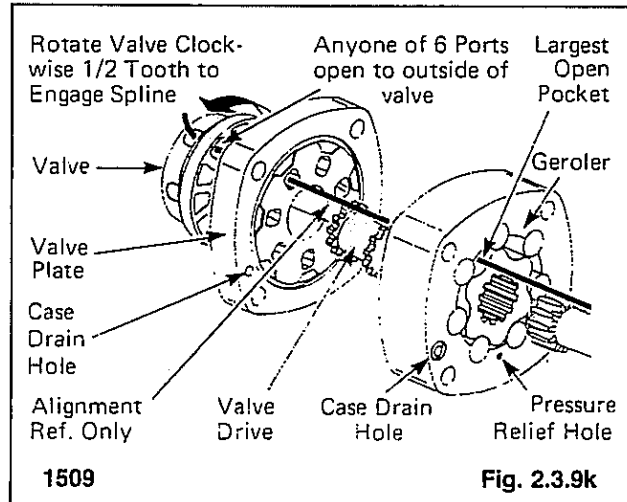

Fig. 2.3.9k
Locate the largest open pocket in the geroler (fig. 2.3.9k). Mark the location of the pocket on the outside edge of the geroler.
18. Align the case drain hole in the valve plate with the case drain hole in the geroler. Install the valve plate (seal side toward geroler) on the geroler assembly (fig. 2.3.9k).
Locate the slot opening in the valve plate which is in line with the largest open pocket of the geroler (fig. 2.3.9k).
Install the valve on the valve plate. Locate any one of the side openings of the valve that goes through to the face of the valve (fig. 2.3.9k). Line up this side opening with the open slot of the valve plate that is in line with the largest open pocket of the geroler.